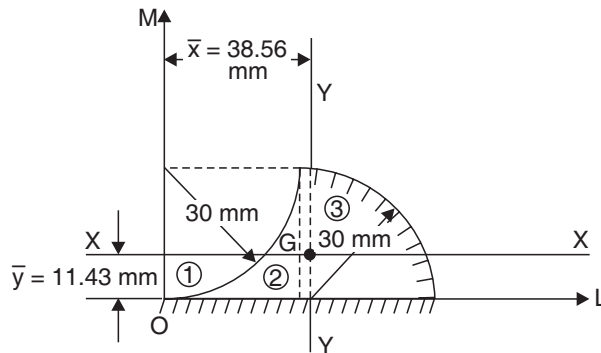

Fig. 5.31
**Example 5.11.** (i) With reference to the shaded area of Fig. 5.31 locate the centroid w.r.t. OL and OM.